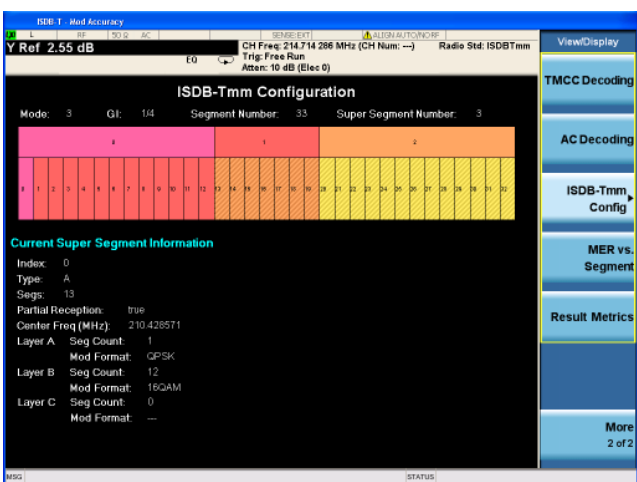

Figure 25. ISDB-Tmm config view for ISDB-Tmm signals
View the frame configuration of the current ISDB-Tmm signal (Figure 25)	[View/Display] {ISDB-Tmm Config}
- **ISDB-Tmm Config view** (Figure 25): This view shows the configurations of each super segment of the ISDB-Tmm signal under test.